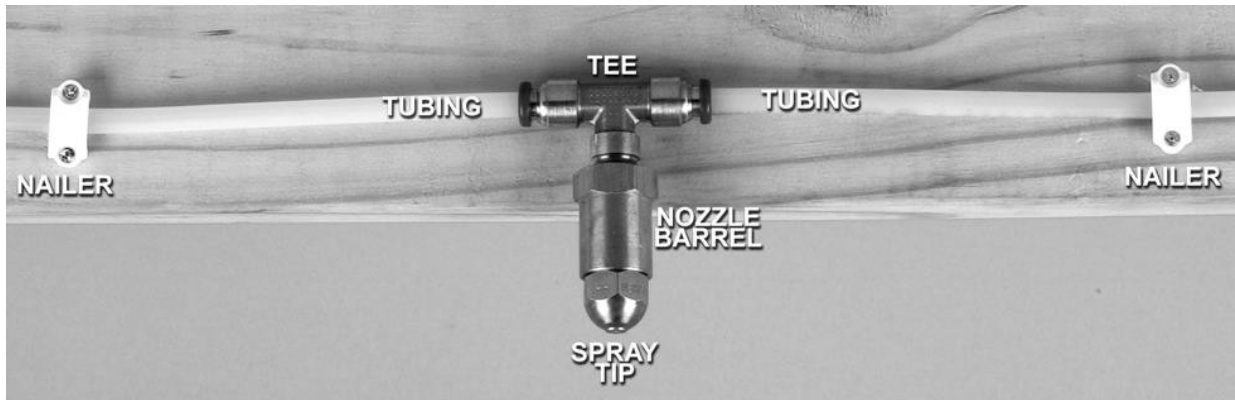

Figure 5 – Spray Nozzle Tee with Tubing and Fasteners
3. Push the tubing firmly into the side of the spray nozzle tee (figure 5). Pull gently to confirm that you have secure connections then push back in. If leakage occurs, remove tubing by pressing down on green circle, pushing the tubing in, pulling the tubing out and then releasing the green circle. Trim $\frac{1}{4}$ inch off the tubing before reinserting.
4. Using the plastic fasteners (figure 5) or zip ties, install the tubing and spray nozzles above the center of each stall and six (6) feet inside each exterior door. Do not install above 15' from the floor. Use cable wire if necessary. Make sweeping turns with the tubing around corners to **avoid kinking**.